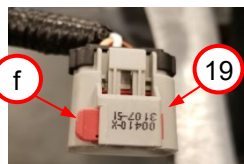

Figure 18.
11. A) Connect fuel system chassis harness 4-pin connector red connect to OEM chassis harness 4-pin connector (not visible). *Figure 18*
B) Verify fuel system chassis harness 4-pin connector red (f) security tab is locked into position. *Figure 18*